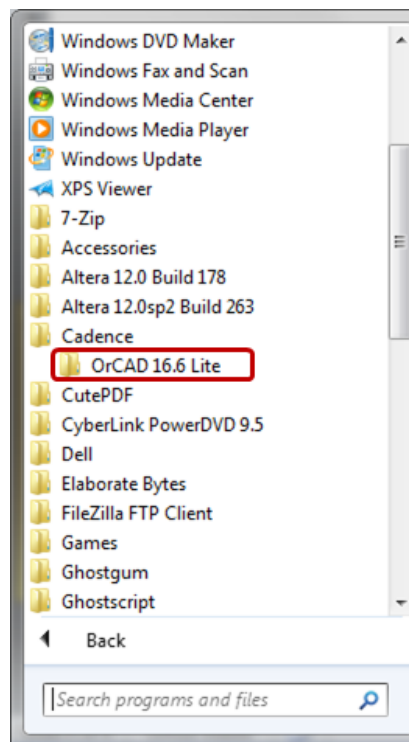

Figure 1: Select OrCAD 16.6 Lite
3. Click on Cadence. Click on **OrCAD 16.6 Lite**. See figure 1.